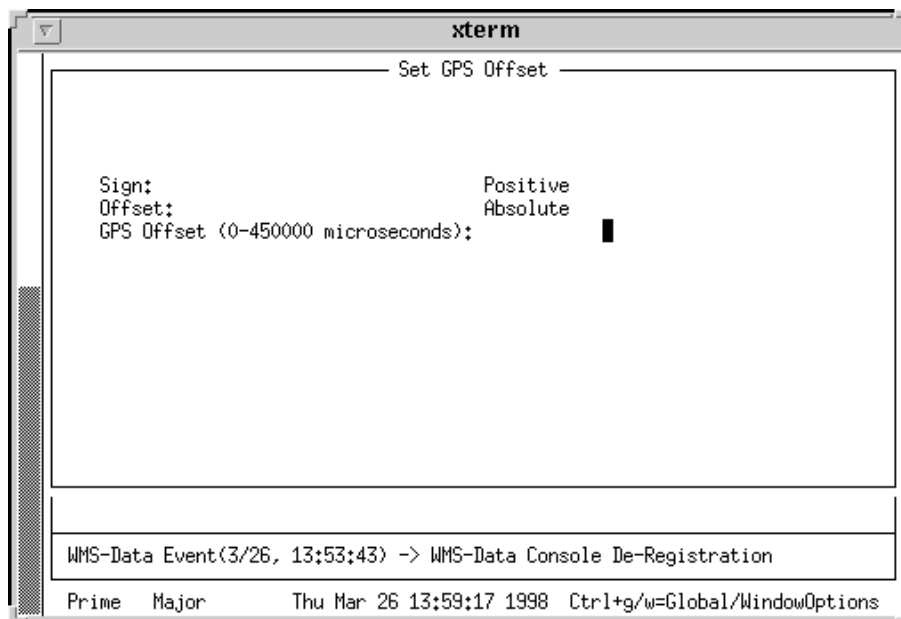

Figure 3-9: Set GPS Offset Screen
4. The Set GPS Offset screen appears (see Figure 3-9).